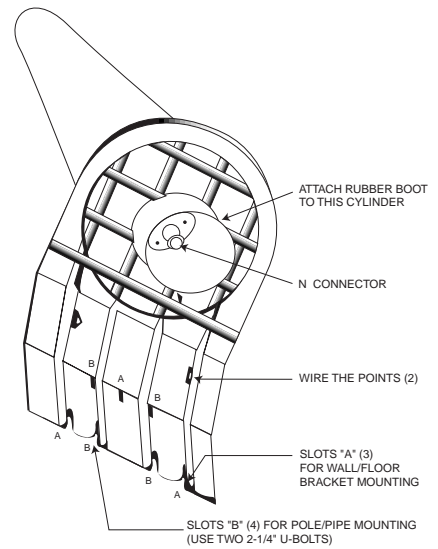
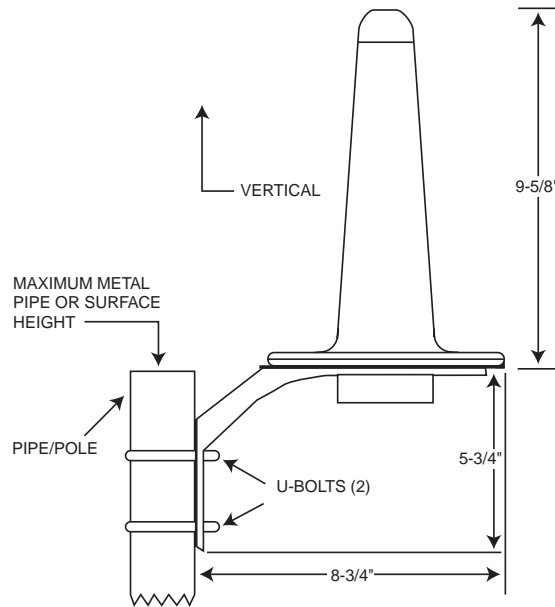

Figure 10a:
Figure 10b:
- **The bracket may be mounted to a wall** by using the # 10 screws and wall anchors provided. Slots "A" should be used (see Figure 10a).
- **Figure 10b shows it mounted to a pole or pipe** with two 2 1/4" U-Bolts (not provided). Slots "B" (see Figure 10a) should be used. Be sure that the pole/pipe does not extend above the base of the antenna.